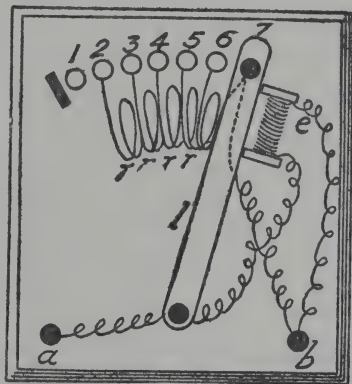

Fig. 49
19. *Electro-Magnet on Starting Box.*—As was explained under *electric motors*, a starting box is simply a series of resistance coils r, r, r, r, r , in Fig. 49. When the motor is not in use the switch l rests upon the point 1 and no electric current passes.